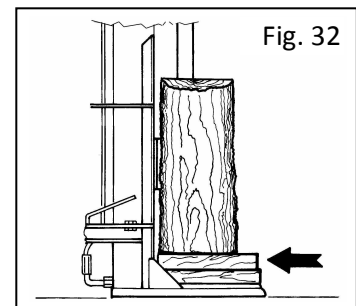

Fig. 32
- Use the two levers to lower the blade until the log is completely cut (fig. 32).